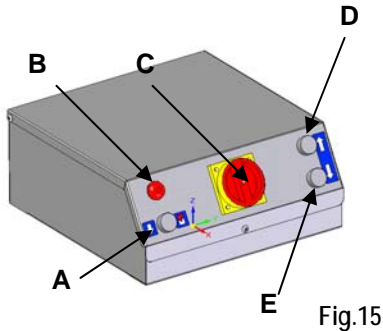

Fig.15
6. BEDIENING EN GEBRUIK (Fig.15)